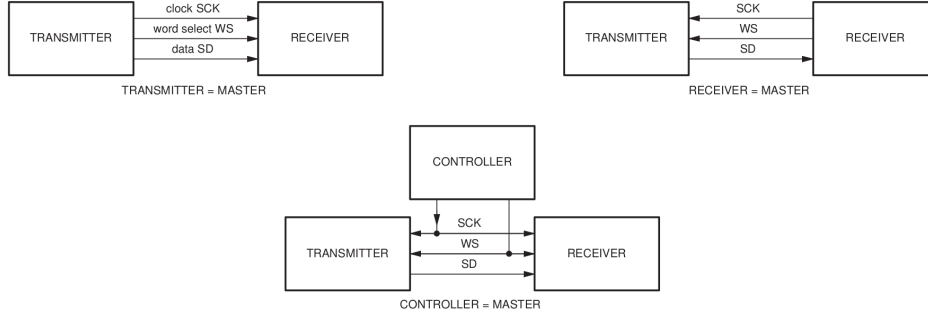

Figure 7: Supported I2S interface configurations. Diagram taken from I2S specification[2].
I2S is a standard interface for transmission of digital data among analog-to-digital converters (ADCs), DACs, digital filters, digital signal processors and other components of digital audio systems. I2S interface consists of three signals: Serial Data (SD), Word Select (WS) and Serial Clock (SCK). Data is driven on the SD line, MSB first. The state of WS line corresponds to the audio channel (right or left) that is currently being transmitted. Depending on which component generates WS and SCK, I2S supports three configurations shown in Fig. 7.